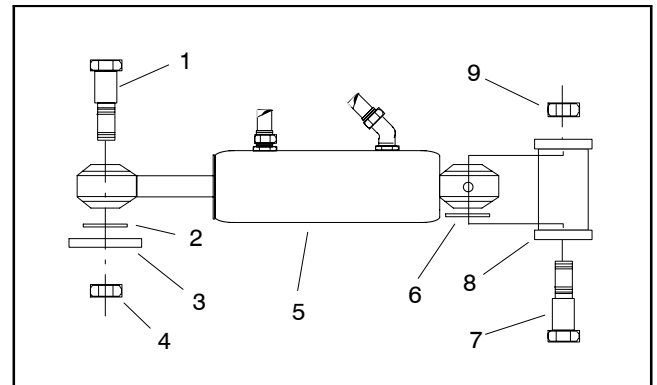

Figure 37
6. Remove cap screws (items 12 and 6) and lock nuts (items 7 and 11) that secure steering cylinder to machine.
7. Pull steering cylinder from machine. Locate and retrieve spacer ring (item 13) and washer (item 9) and note location for installation purposes (Fig. 37).
2. Position steering cylinder to machine. Make sure to place spacer ring (item 13) and washer (item 9) in locations noted during removal (Fig. 37).
3. Secure steering cylinder to machine with cap screws (items 12 and 6) and lock nuts (items 7 and 11). Torque lock nuts from 130 to 150 ft-lb (176 to 203 N-m).